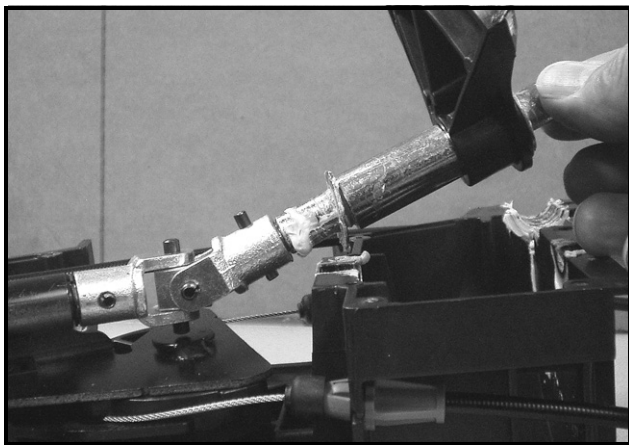

FIGURE 12
16. Rotate the bevel gear shaft up out of the LH housing as shown in Figure 12, then lift the joystick along with the pitch control pulley and cables out of the LH housing. Set aside.